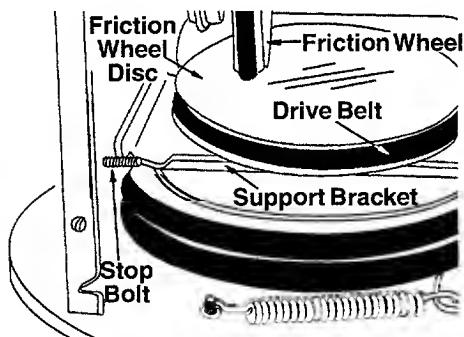

FIGURE 24
- Back out the stop bolt until the support bracket rests on the auger pulley. See figure 24.
- Slip belt between friction wheel and friction disc plate. See figure 24. Reassemble by following the instructions.
NOTE: *The support bracket must rest on the stop bolt after the new belt has been assembled. See figure 24.*